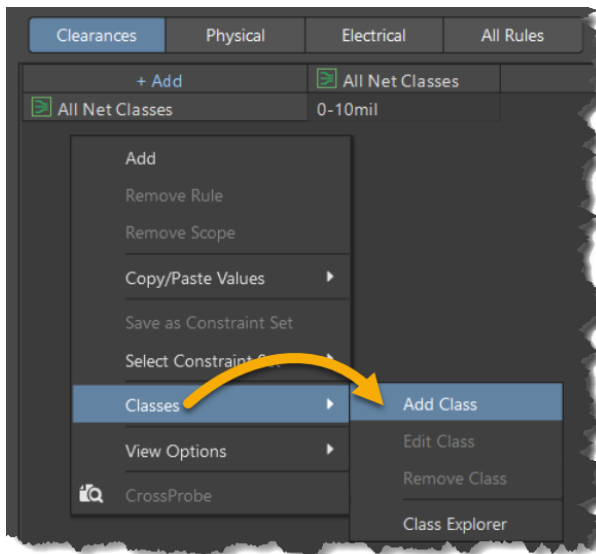

Figure 4. Add New Class
16. Do a right-click, select the command **Classes » Add Class**. The *Add Classes* dialog will appear, Figure 4.